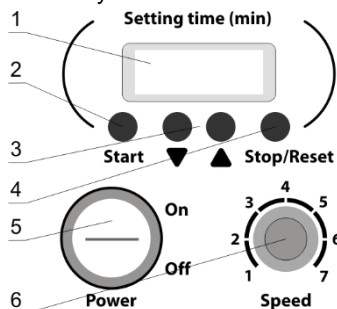

Figure 1. Bio RS-24
- 5.2.1 Connect the external power supply to the mains. Move the **Power** switch (fig. 1/5) to position **on**.
- 5.2.3 Set the rotation speed using the **Speed** knob (fig. 1/6).
- 5.2.4 Set the operation time using the ▼ and ▲ keys (fig. 1/3).
- 5.2.5 Press the **Start** key (fig. 1/2) to start the program.
- 5.2.6 The platform motion begins. Operation timer on the display (fig. 1/1) starts the count-down. Intervals less than 1 hour are displayed in minutes and seconds, intervals more than 1 hour – in hours and minutes.
- 5.2.7 If the operation timer is not set and display shows 0:00, pressing the **Start** key causes continuous operation of the rotator until the **Stop/Reset** key (fig. 1/4) is pressed.